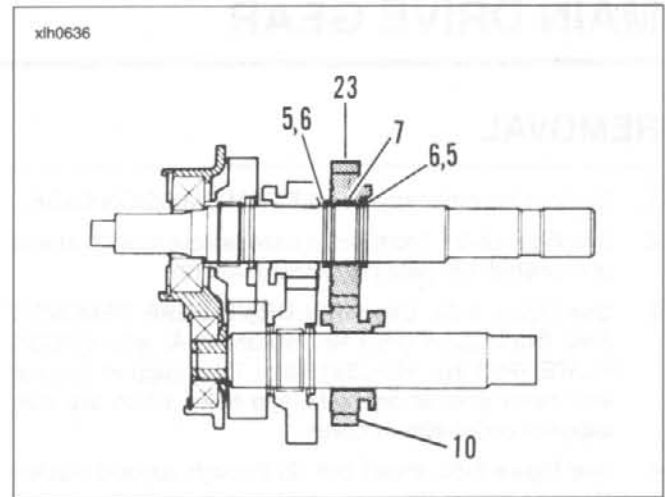

Figure 6-48.
10. See Figure 6-48. At mainshaft, install retaining ring (5) and thrust washer (6). Install split bearing (7) in seat next to thrust washer (6).
11. Install mainshaft 3rd gear (23) onto shaft over bearing (7).
12. Install thrust washer (6) and retaining ring (5) next to gear (23).
13. Install countershaft 3rd gear (10) onto shaft. The shifter fork groove must face away from the access door.